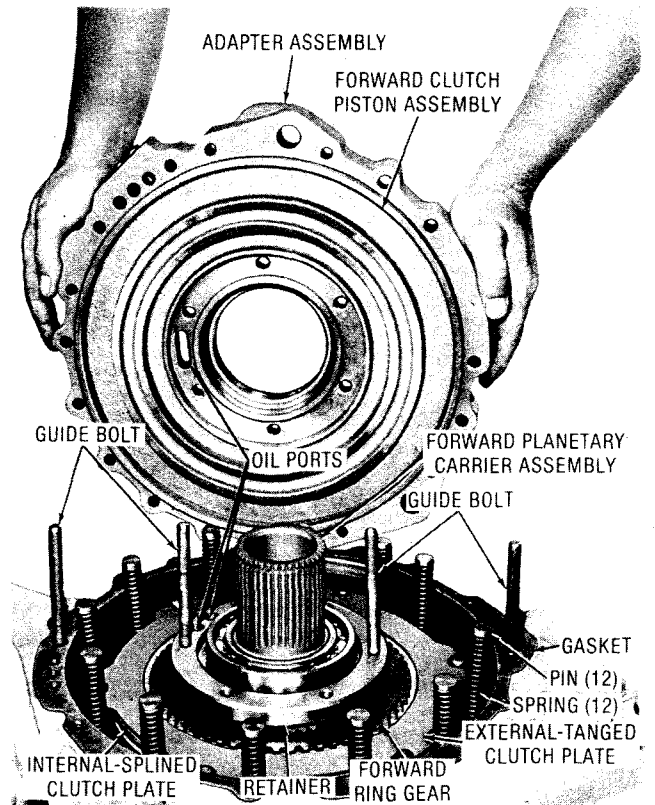

Fig. 7-51. Installing rear housing adapter assembly (TRT-3 overdrive)
(7) Install another internal-splined clutch plate and another external-tanged plate above the positioning ring on the forward ring gear (fig. 7-51).
(8) Install twelve clutch piston return springs and twelve pins (fig. 7-51).
(9) Install the adapter gasket onto the transmission housing (fig. 7-51). Install headless guide bolts at the four positions shown in figure 7-51.
(10) Install forward clutch piston, with sealrings, flat side first, into the rear housing adapter assembly (fig. 7-51).
(11) Install the adapter assembly, aligning oil ports in the adapter and retainer (fig. 7-51).